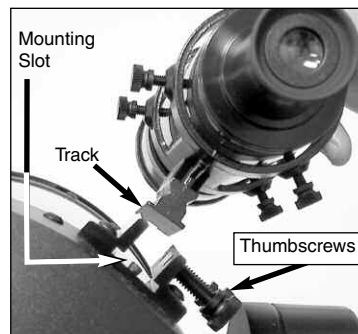

Fig. 7a: Viewfinder Assembly.
1. Slide the track on the bottom of the viewfinder into the slot in the viewfinder mounting assembly. See **Fig. 7a**. To secure the viewfinder to the mounting assembly, tighten the two thumbscrews (**Fig. 7a**) to a firm feel only.